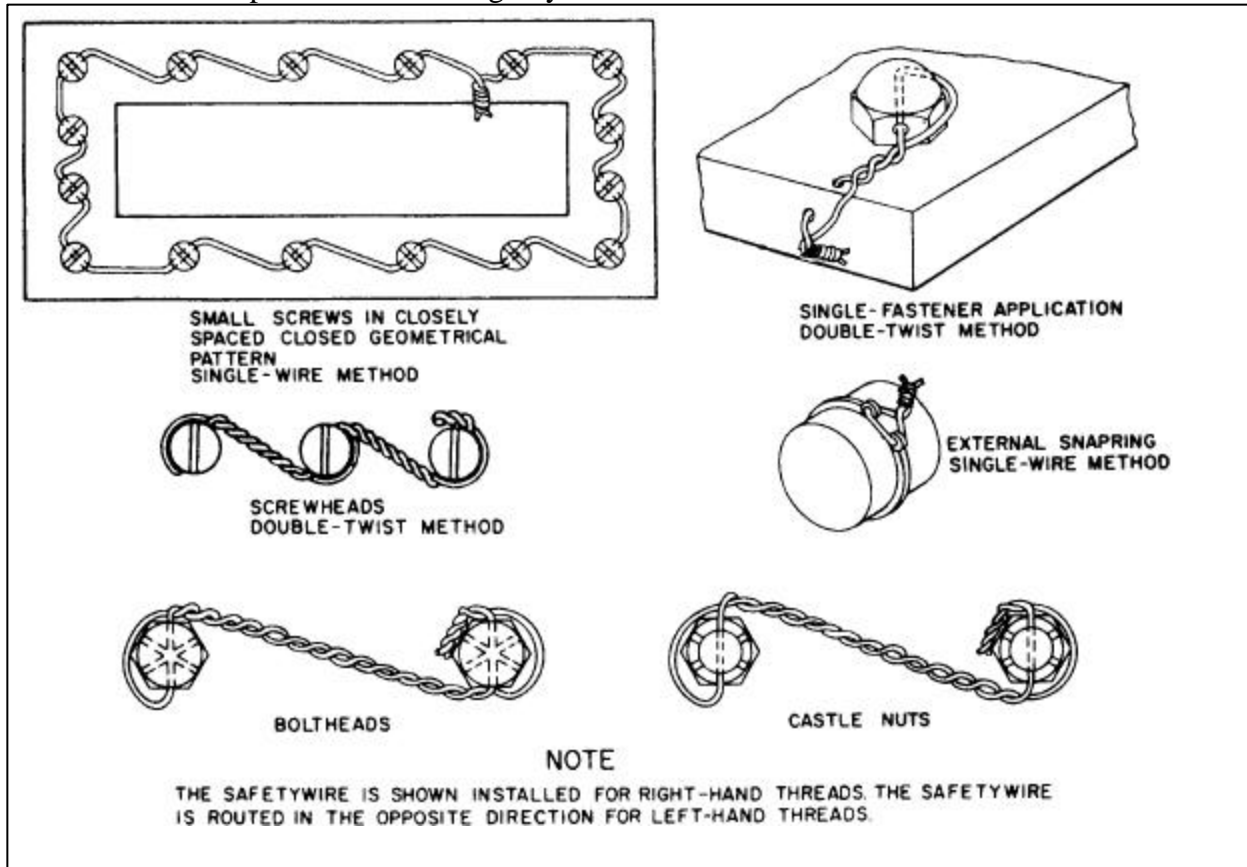

FIGURE 7-3. Securing screws, nuts, bolts, and snaprings.
a. There are two methods of safety wiring; the double-twist method that is most commonly used, and the single-wire method used on screws, bolts, and/or nuts in a closely-spaced or closed-geometrical pattern such as a triangle, square, rectangle, or circle. The single-wire method may also be used on parts in electrical systems and in places that are difficult to reach. (See figures 7-3 and 7-3a.)